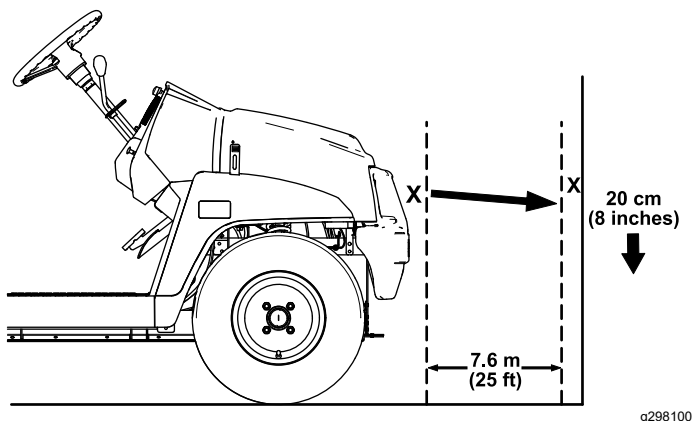

Figure 43
1. Park the machine on a level surface with the headlights approximately 7.6 m (25 ft) from a wall (Figure 43).
The brightest part of the headlight beam should be 20 cm (8 inches) below the mark placed on the wall (Figure 43).